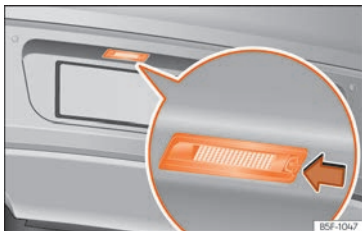

Fig. 69 In the rear bumper: Number plate light.
- Press the number plate light in the direction of the arrow » **Fig. 69**.